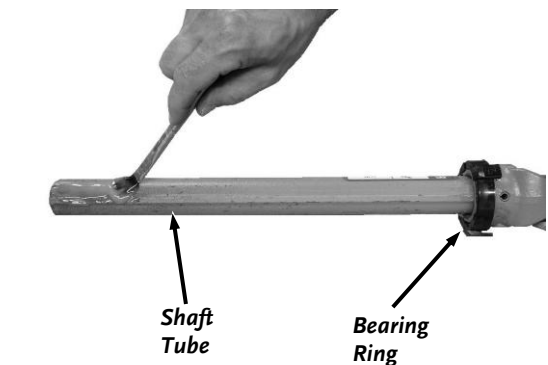

Figure 14
6. Grease both Shaft Tubes and under the Bearing Rings of each Shaft (**Figure 14**).